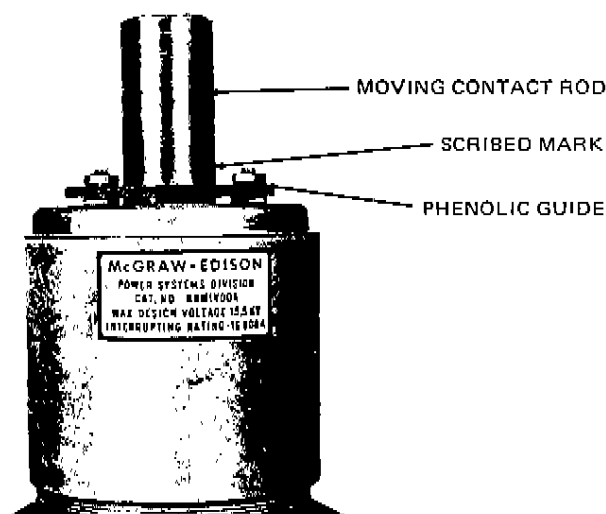

Figure 5
- B. Check the position of the scribed mark on the moving contact rod of the interrupter (Figure 5).